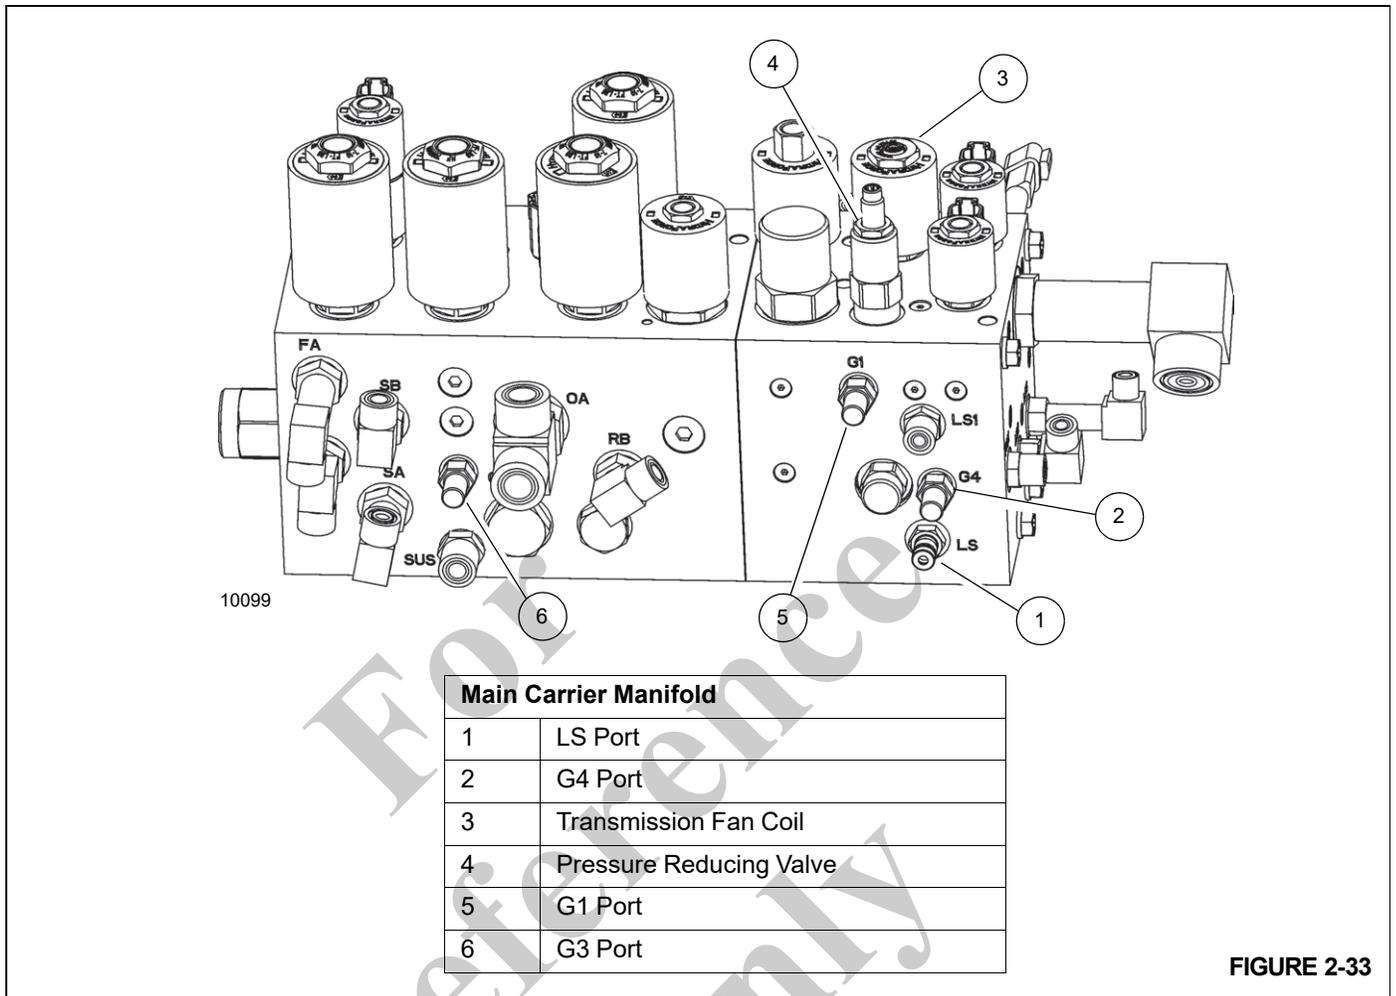
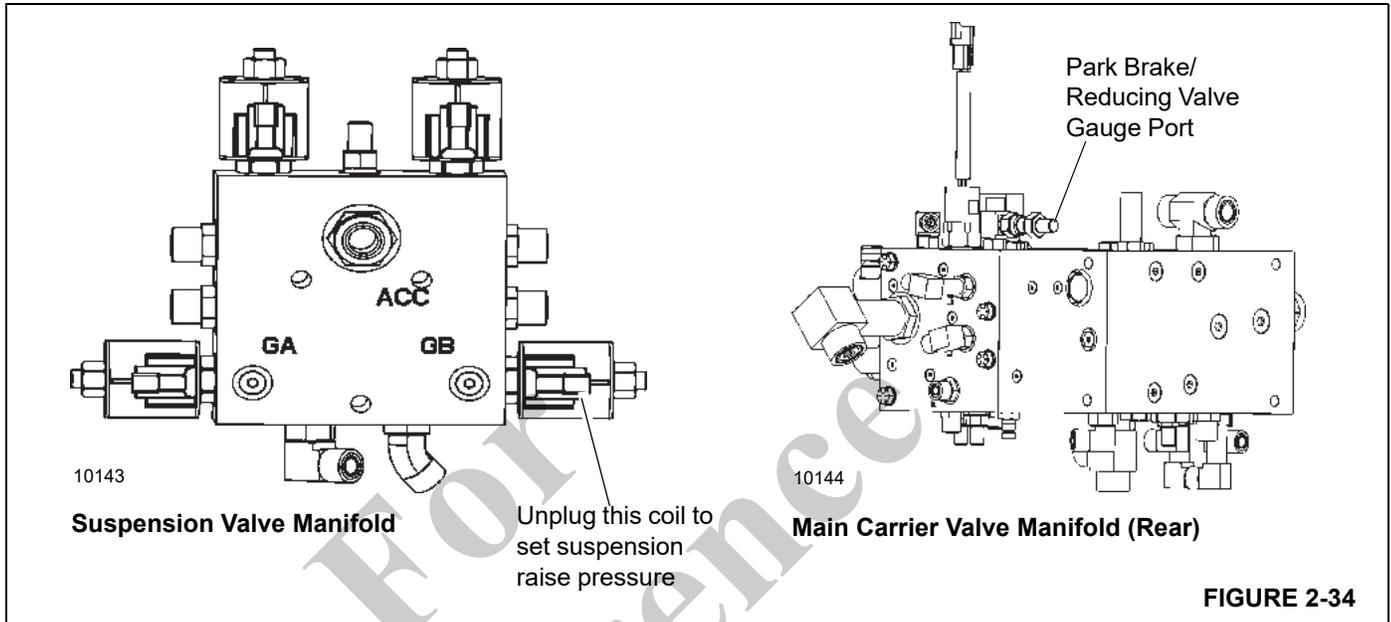

FIGURE 2-33
FIGURE 2-34
1. With the engine off, install a pressure check diagnostic coupler (such as Parker PD240) with gauge onto the diagnostic nipple at the LS port (1, Figure 2-33) on the main carrier manifold.
1. Start engine and idle. Make sure that the outrigger beams can be fully extended safely. Extend any outrigger beam until full stroke of the cylinder is achieved and hold. Slowly accelerate the engine to full RPM. The reading at LS port (1, Figure 2-33) should read the value cited in Table 2-3. If it is not, use the service tool as follows to adjust:
1. Start engine and idle. Retract any outrigger beam until full stroke of the cylinder is achieved and hold. Slowly accelerate the engine to full RPM. The reading at LS port (1, Figure 2-33) should read the value cited in Table 2-3. If it is not, use the service tool as follows to adjust:
1. Start engine and idle. Extend any outrigger jack until full stroke of the cylinder is achieved and hold. Slowly accelerate the engine to full RPM. The reading at LS port (1, Figure 2-33) should read the value cited in Table 2-3. If it is not, use the service tool as follows to adjust.
1. Start engine and idle. Retract any outrigger jack until full stroke of the cylinder is achieved and hold. Slowly accelerate the engine to full RPM. The reading at LS port (1, Figure 2-33) should read the value cited in Table 2-3. If it is not, use the service tool as follows to adjust.
1. Start engine and idle. Slowly accelerate the engine to full RPM, operate rear steer switch until reaching an axle stop, and hold. The reading at LS should port (1, Figure 2-33) should read the value cited in Table 2-3. If it is not, use the service tool as follows to adjust.
1. Start engine and idle. Slowly accelerate the engine to full RPM, operate pinning extend until end of stroke, and hold. The reading at LS port (1, Figure 2-33) should read the value cited in Table 2-3. If it is not, use the service tool as follows to adjust.
2. Repeat procedure for outrigger pinning retract. The reading at the LS port (1, Figure 2-33) should read the value cited in Table 2-3. If it is not, use the service tool as follows to adjust.
1. On suspension valve manifold (Figure 2-34), unplug the coil on valve inlet port P. Start the engine and idle. Operate the suspension fill function and hold. The reading at LS port (1, Figure 2-33) should read the value cited in Table 2-3. If it is not, use the service tool as follows to adjust:
1. diagnostic nipple at the PS port of the main carrier valve (Figure 2-34).
2. Unplug transmission fan coil from harness (Figure 2-34).
3. Start engine and idle. Release (pressurize) the parking brake. Read gauge and adjust the pressure reducing valve (Figure 2-34) “in” to increase or “out” to decrease to the value cited in Table 2-3.